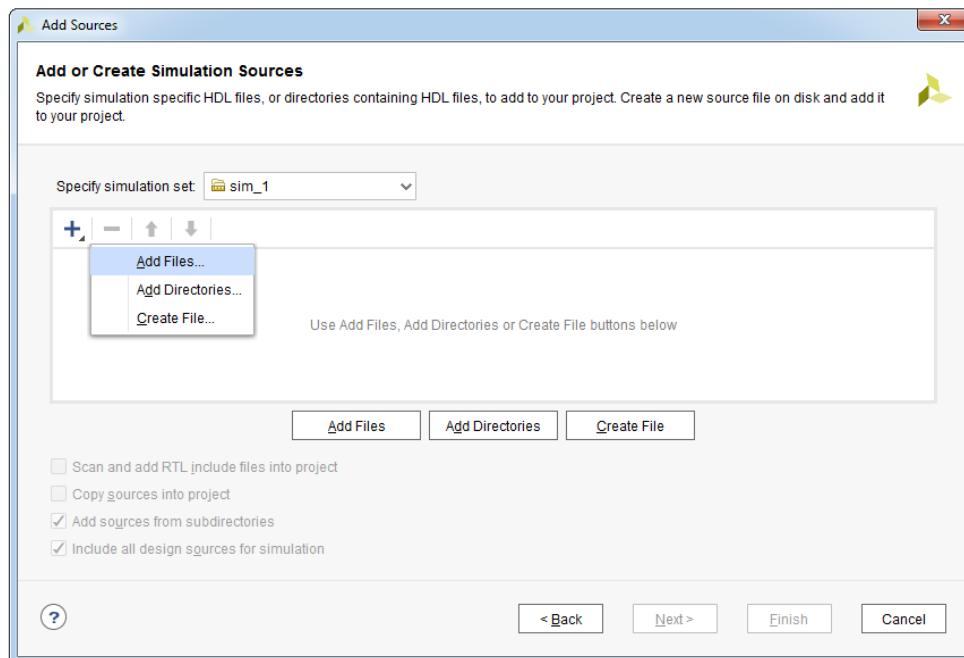

Figure 2.30: Add or Create Simulation Sources dialog box
11. In the **Add or Create Simulation Sources** dialog box, click the + icon and select **Add Files...** option, see Figure 2.30.